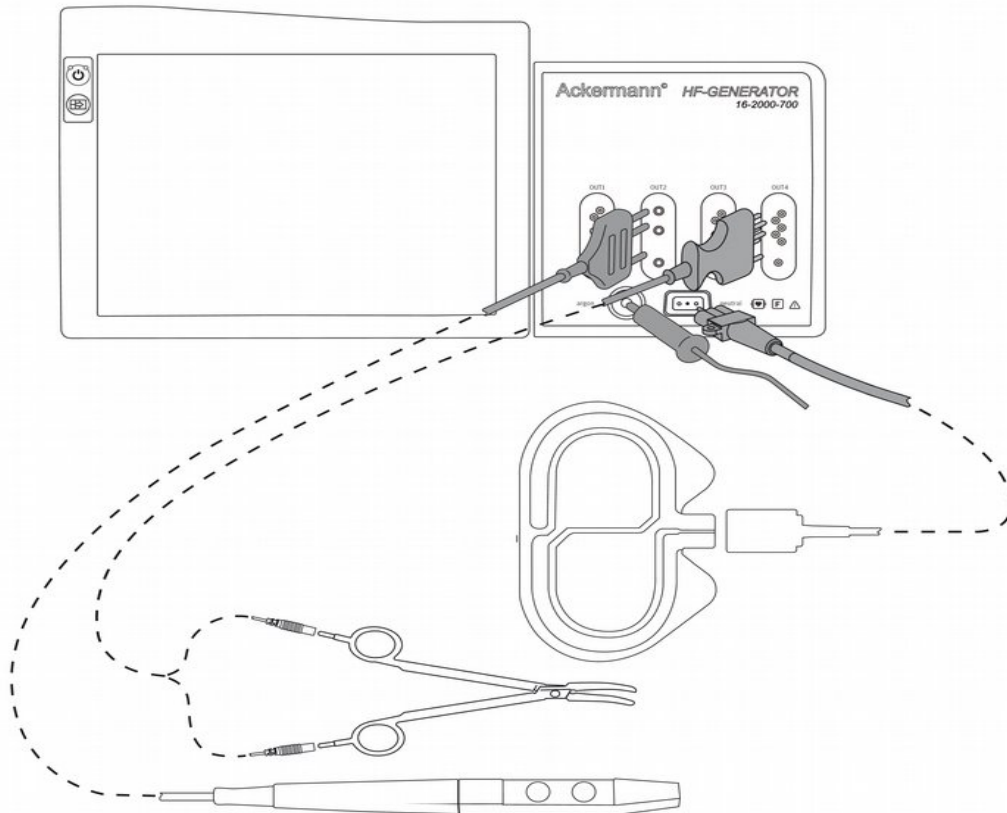

Fig. 10. How to connect accessories to outputs 2 (monopolar) and 4 (bipolar) in the HF 16-2000-700 system, Version II
The method of connecting **accessories** to the monopolar output (**Fig. 1 item 2**) and the bipolar output (**Fig. 1 item 4**) is explained in **Fig. 10**.